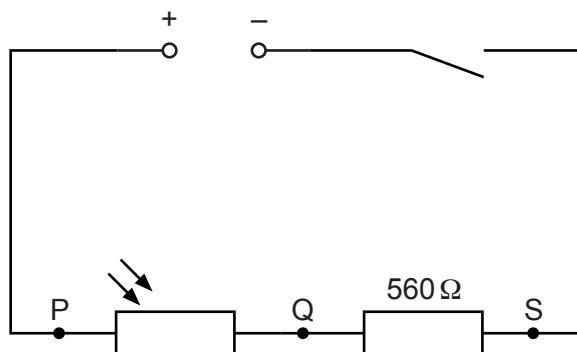

Fig. 1.1
- sufficient connecting leads to assemble the circuit shown in Fig. 1.1.
1 The supervisor must assemble the circuit shown in Fig. 1.1 for the candidates in advance of the examination.
The circuit must be restored to its original state as shown in Fig. 1.1, with the switch open, and the voltmeter removed and placed by the side of the circuit.